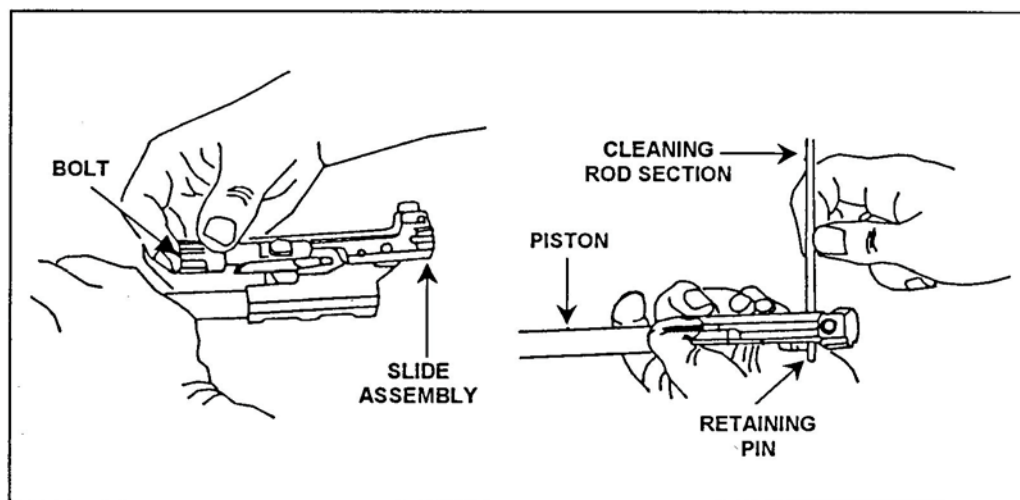

Figure 5. Removal of the bolt and piston.
- (2) Rotate the bolt clockwise to disengage the lug. Remove the bolt from the slide assembly. Separate the piston from the slide assembly by pressing the rearmost retaining pin to the left and lifting the piston off the slide assembly (Figure 5).